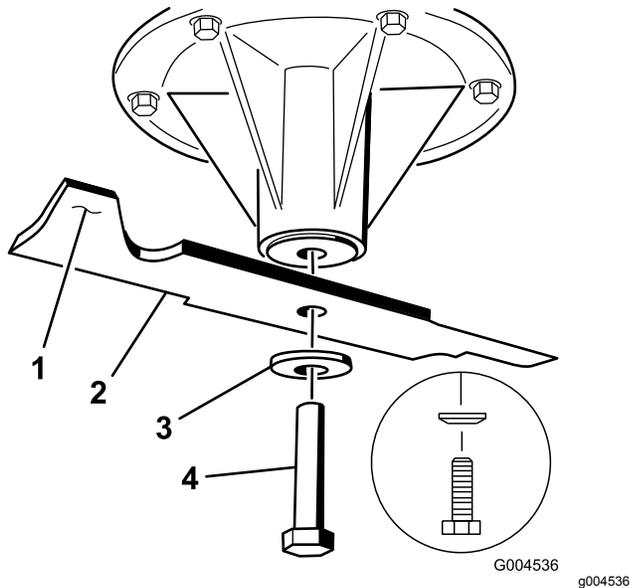

Figure 92
1. Install the blade onto the spindle shaft (Figure 92).
2. Install the spring disk and blade bolt (Figure 92).
Note: The spring-disk cone must be installed toward the bolt head (Figure 92).